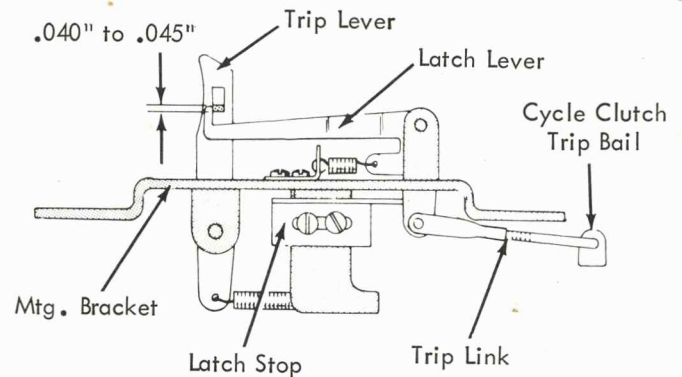
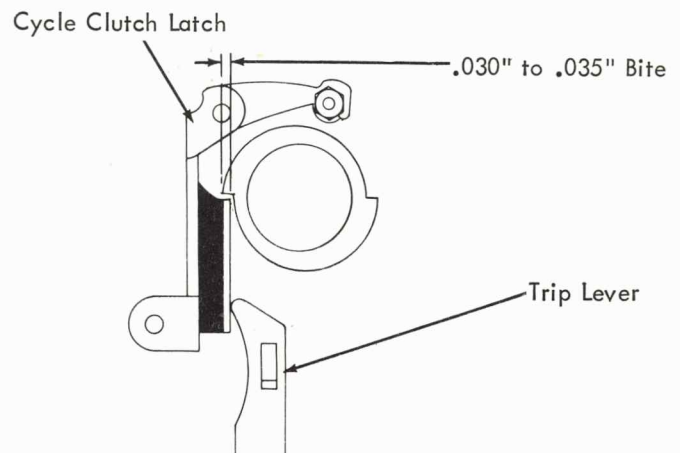
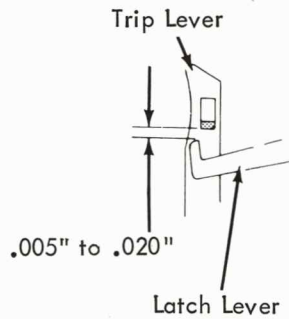

FIGURE 18. Latch Lever
FIGURE 19. Mounting Bracket Positions
FIGURE 20. Trip Link Adjustment
- a. Disconnect the trip link (Fig. 18).
8. Trip Link (Late Style) - The clevis is now attached to the link and the adjustment is made with a self-locking nut. The adjustment is the same as in Fig. 20.
1. Latch Stop (Fig. 18) - Position so that the latch lever overlaps the trip lever lug by .040" to .045"
2. Mounting Bracket (Fig. 18) - Position front to rear so that the cycle clutch latch has a .030" to .035" bite on the sleeve (Fig. 19).
3. Trip Link Clevis (Fig. 18) - With either the T2 or R5 armature manually attracted, adjust the clevis so that the latch lever clears the trip lever lug by .005" to .020" (Fig. 20).